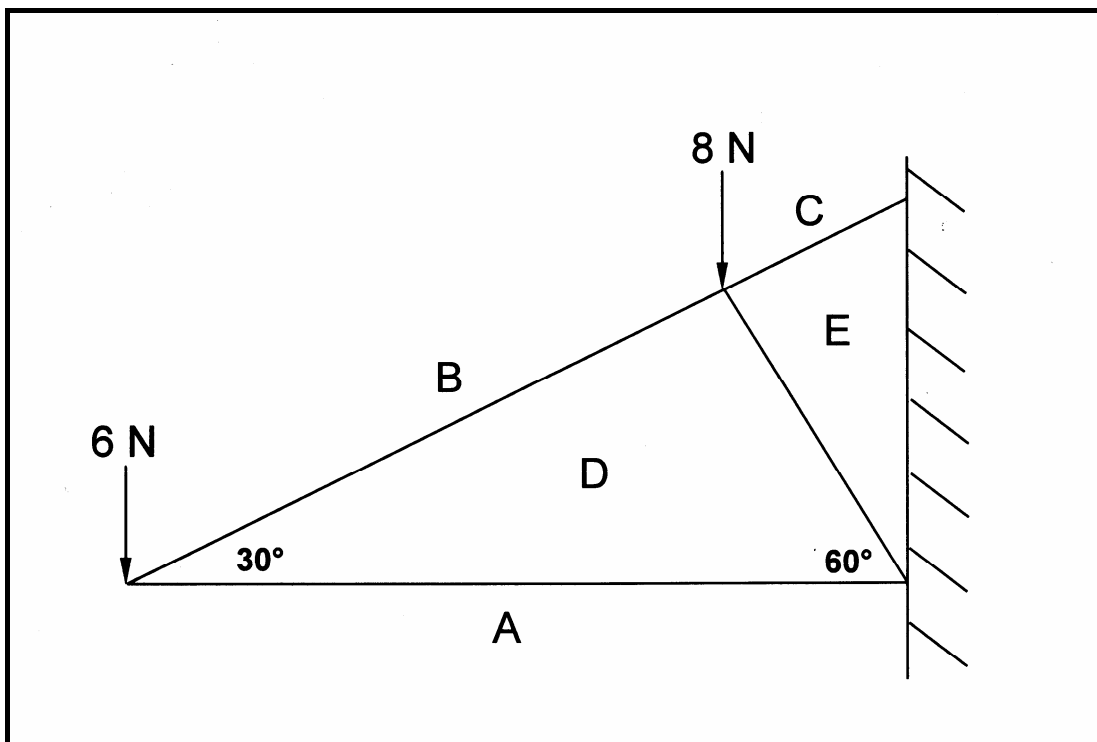

FIGURE 5.1
- 5.1 FIGURE 5.1 below shows the space diagram of a cantilever roof truss.